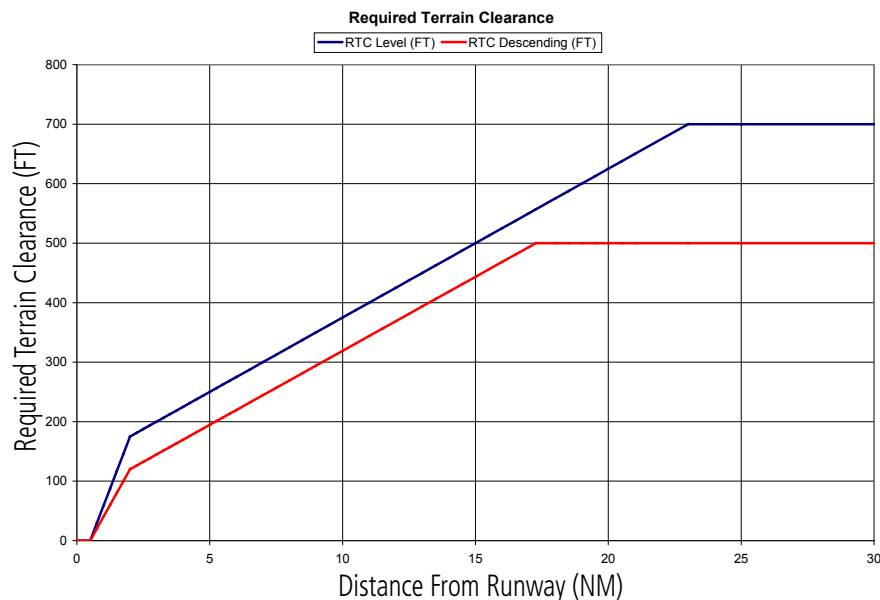

Figure 6-134 FLTA Alert Minimum Terrain and Obstacle Clearance Values
**Reduced Required Terrain Clearance (RTC)** and **Reduced Required Obstacle Clearance (ROC)** alerts are issued when the aircraft flight path is above terrain, yet is projected to come within the minimum clearance values in Figure 6-134. When an RTC alert is issued, a potential impact point is displayed on the TAWS-A Page.
**Imminent Terrain Impact (ITI)** and **Imminent Obstacle Impact (IOI)** alerts are issued when the aircraft is below the elevation of a terrain or obstacle cell in the aircraft's projected path. ITI and IOI alerts are accompanied by a potential impact point displayed on the TAWS-A Page. The alert is annunciated when the projected vertical flight path is calculated to come within minimum clearance altitudes in Figure 6-134.